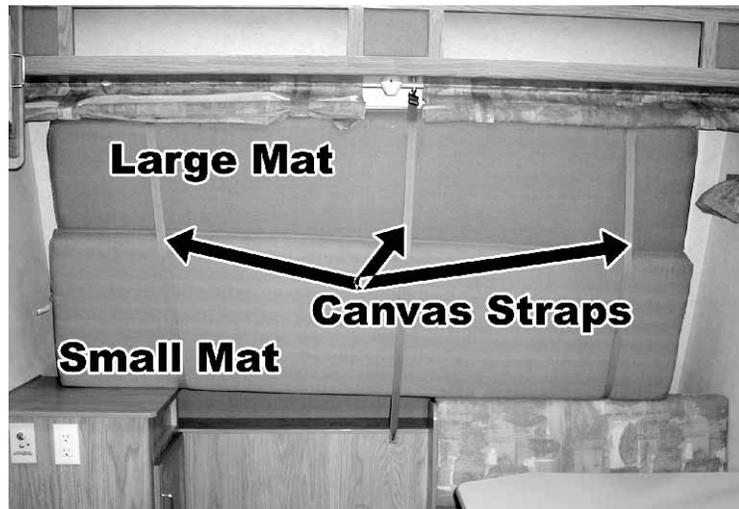

Fig. 28
2. Slide the small bed mat onto the large bed mat. From the far side of the large bed mat, pull the mat up to set on its edge. (Fig. 28)